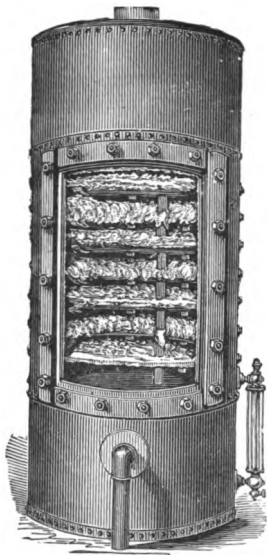

FIG. 107.—STILWELL'S LIME EXTRACTING
A. In the one shown, Fig. 107, the exhaust steam enters at the side, about half way up, and is divided into two currents. Part of it escapes at the top. The feed is partly sprayed in just above where the steam enters; and it trickles along in a zig zag downward course, over removable corrugated shelves or depositing surfaces, occupying nearly the central third of the height of the filter. Below this, the cylinder is filled with filtering material (had or something like that) which rests on a false bottom, below which the sediment may be removed. The feed, now heated, filtered, and deprived of its lime salts, escapes at the side of the filtering part of the apparatus. A steam tight door permits of the withdrawal of the pans when covered with lime.